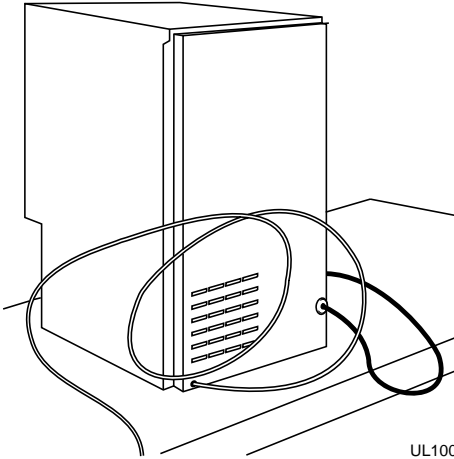

Figure 7
- For recessed installations, allow extra water supply line length to provide slack for easy removal from the recessed area (see Figure 7). This will also safeguard against kinking the line.